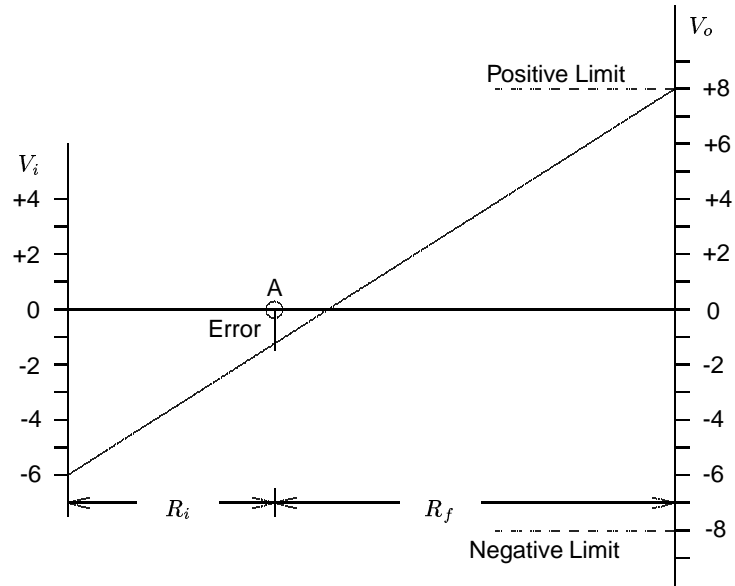

Figure 7: Positive Output Clipping
**Clipping and the Error Voltage** When the output voltage reaches the positive or negative limit of the op-amp, the system of negative feedback no longer functions and the error voltage becomes significant. Figure 7
The closed-loop gain  $-R_f/R_i$  is equal to 2 volts/volt and the limit of the op-amp output voltage  $V_o$  is  $\pm 8$  volts. In the case shown in figure 7 the input voltage is  $-6$  volts, so the output limits at  $+8$  volts. The resistors  $R_f$  and  $R_i$  function as a voltage divider and create a non-zero voltage at point A, the inverting input of the op-amp. When troubleshooting an inverting op-amp circuit, it is useful to check the voltage at the inverting terminal: if it is not equal to the voltage at the non-inverting terminal (often ground, or zero volts), then the op-amp is not operating as a negative feedback system.